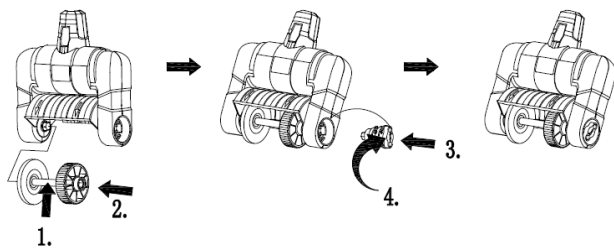

Fig.4
- B. Assemble the roller plastic brush or metal brush. Refer to Fig.4